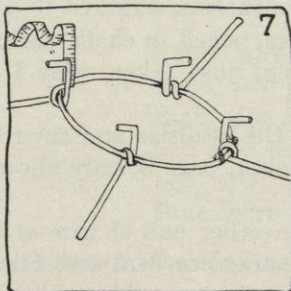

FIG. 7.
- At that point mark off with a pin, pencil, or chalk mark, or a tiny bend, the headsize measurement just taken, plus 1 inch (see Figure 7 in Job 1, page 5).
- (1) Measure up just 1 inch from headsize on the 2-inch vertical wire (see Figure 7).